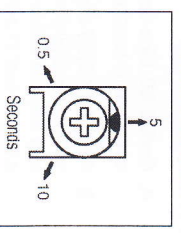

FIGURE 29 – TCL TRIMPOT RANGE
G. Timed Current Limit (TCL) – Sets the time for the control to shut down after being in current limit (provides electronic motor overload protection). The TCL trimpot is factory set for 5 seconds, as shown in Figure 29. For increased TCL time, rotate the trimpot clockwise. For decreased TCL time, rotate the trimpot counterclockwise. If the control remains in CL for a predetermined amount of time (set by the TCL trimpot and if jumper J3 is in the "TCL" position), the control will shut down. To reset the control after it has shut down, momentarily set the start/stop switch to the "START" position or disconnect and then reconnect the AC line.